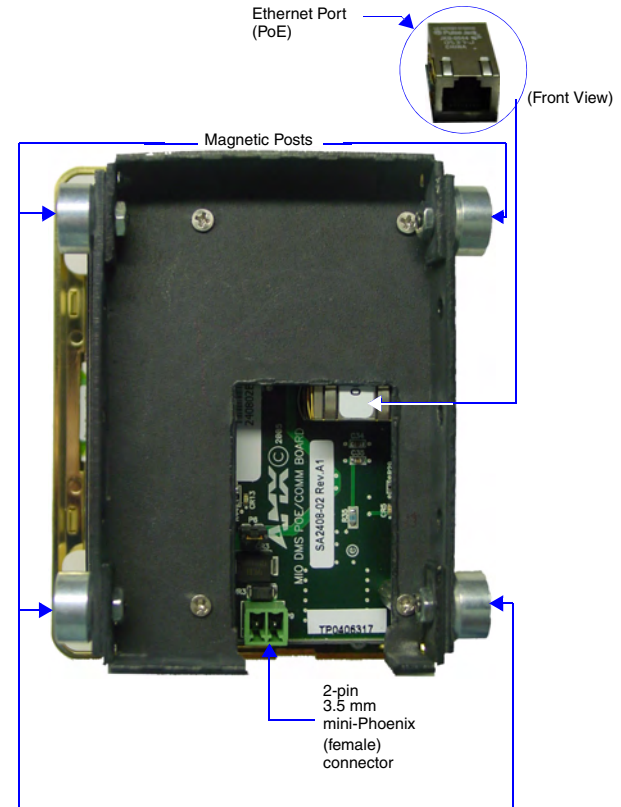

FIG. 2 Mio Modero DMS Rear Components
The rear components of the Mio Modero DMS (FIG. 2) are as follows:
Connect your CAT5/CAT6 Ethernet cable to the port shown in FIG. 2. (See the *Mio Modero DMS & Mio Modero DMS Pinnacle* instruction manual for an illustration and cable pinouts).
8. Connect the 2-pin power connector and/or CAT5/CAT6 cables in the back of the Mio DMS. See FIG. 2 for port locations.